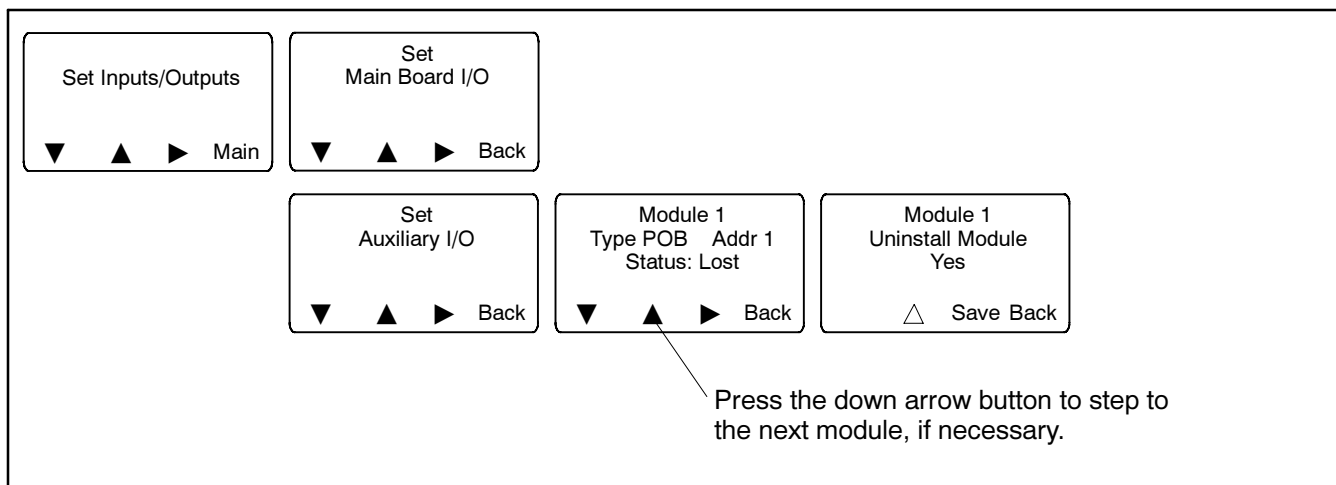

Figure 2-14 Uninstall Module
3. Navigate to the Set Input/Outputs>Set Aux I/O screen to check that the controller has recognized the connected modules. See Figure 2-14.
5. Press the down arrow to step to the Set Inputs/Outputs screen. See Figure 2-14.
6. Navigate to the Set Auxiliary I/O screen. See Figure 2-14. Press the right arrow button to see the status of module 1. Press the down arrow to step to the next module, if necessary, until the screen shows Status: Lost.
10. Navigate to the Set Auxiliary I/O screen to check the status and settings for the new module. See Figure 2-14. Press the right arrow button to see the status of module 1. Press the down arrow to step to the next module, if necessary,